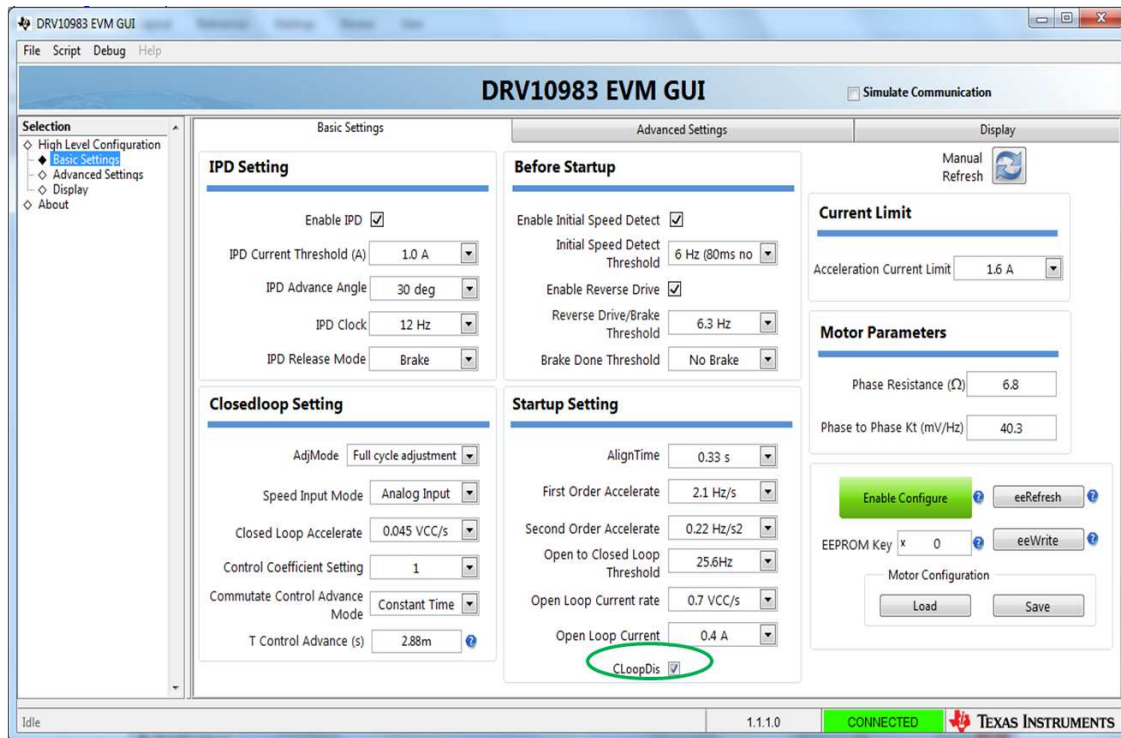

Figure 10. DRV10983x/75 EVM GUI Screenshot
6. During the evaluation of IPD, disable close loop operation of motor by checking box 'CLoopDis' (see Figure 10).